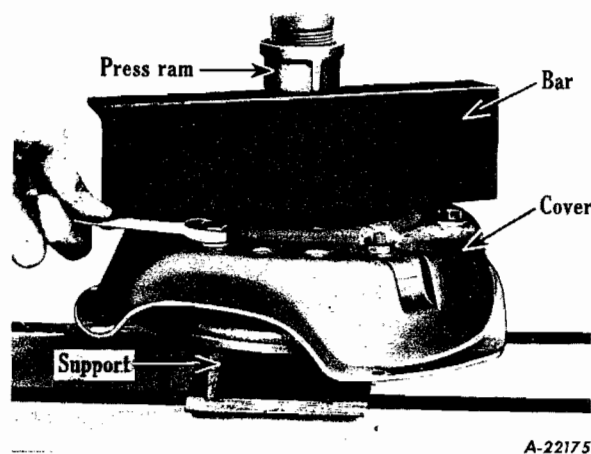

Fig. 16
wood or metal under pressure plate. (Fig. 16.) These blocks should not extend out beyond the outside edges of the pressure plate. (E). A bar is then placed across the top of the cover assembly "D" and the drill press or arbor press arm brought down to a point where the assembly is compressed slightly. From this point on, the same procedure can be followed as used with the special type clutch overhaul fixture previously explained.